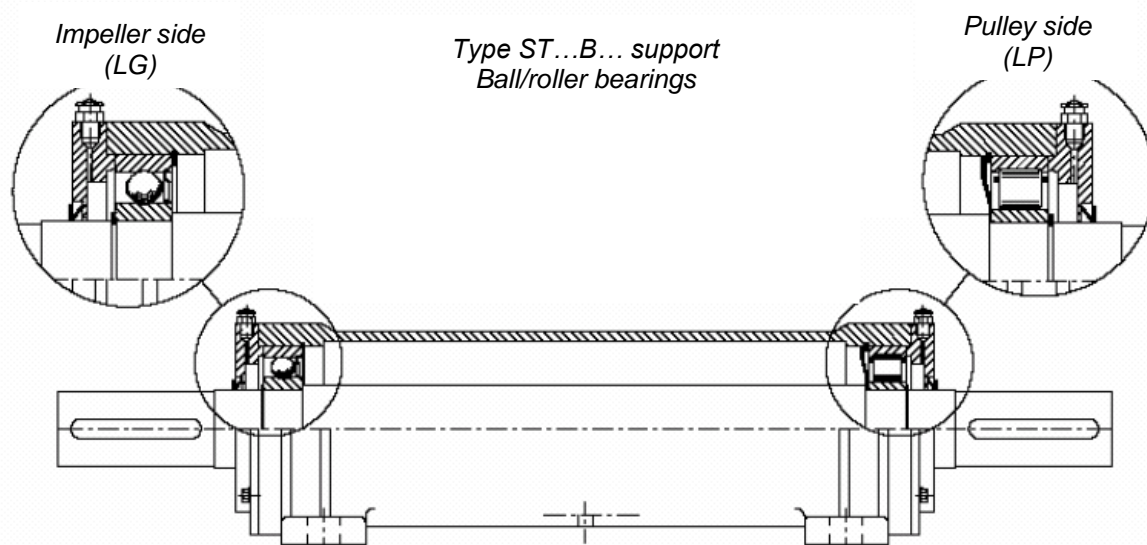

Fig. 10-9 ST...B... one-piece support with radial ball bearings on impeller side and roller bearings on transmission side
- Type ST...B... support with rigid roller bearing on transmission side (Fig. 10-9). The side with the roller bearing is punched with "CR" on the shaft.
Take care to fit the grease sealing ring in the right direction (Fig. 10-9 and Photo 60).